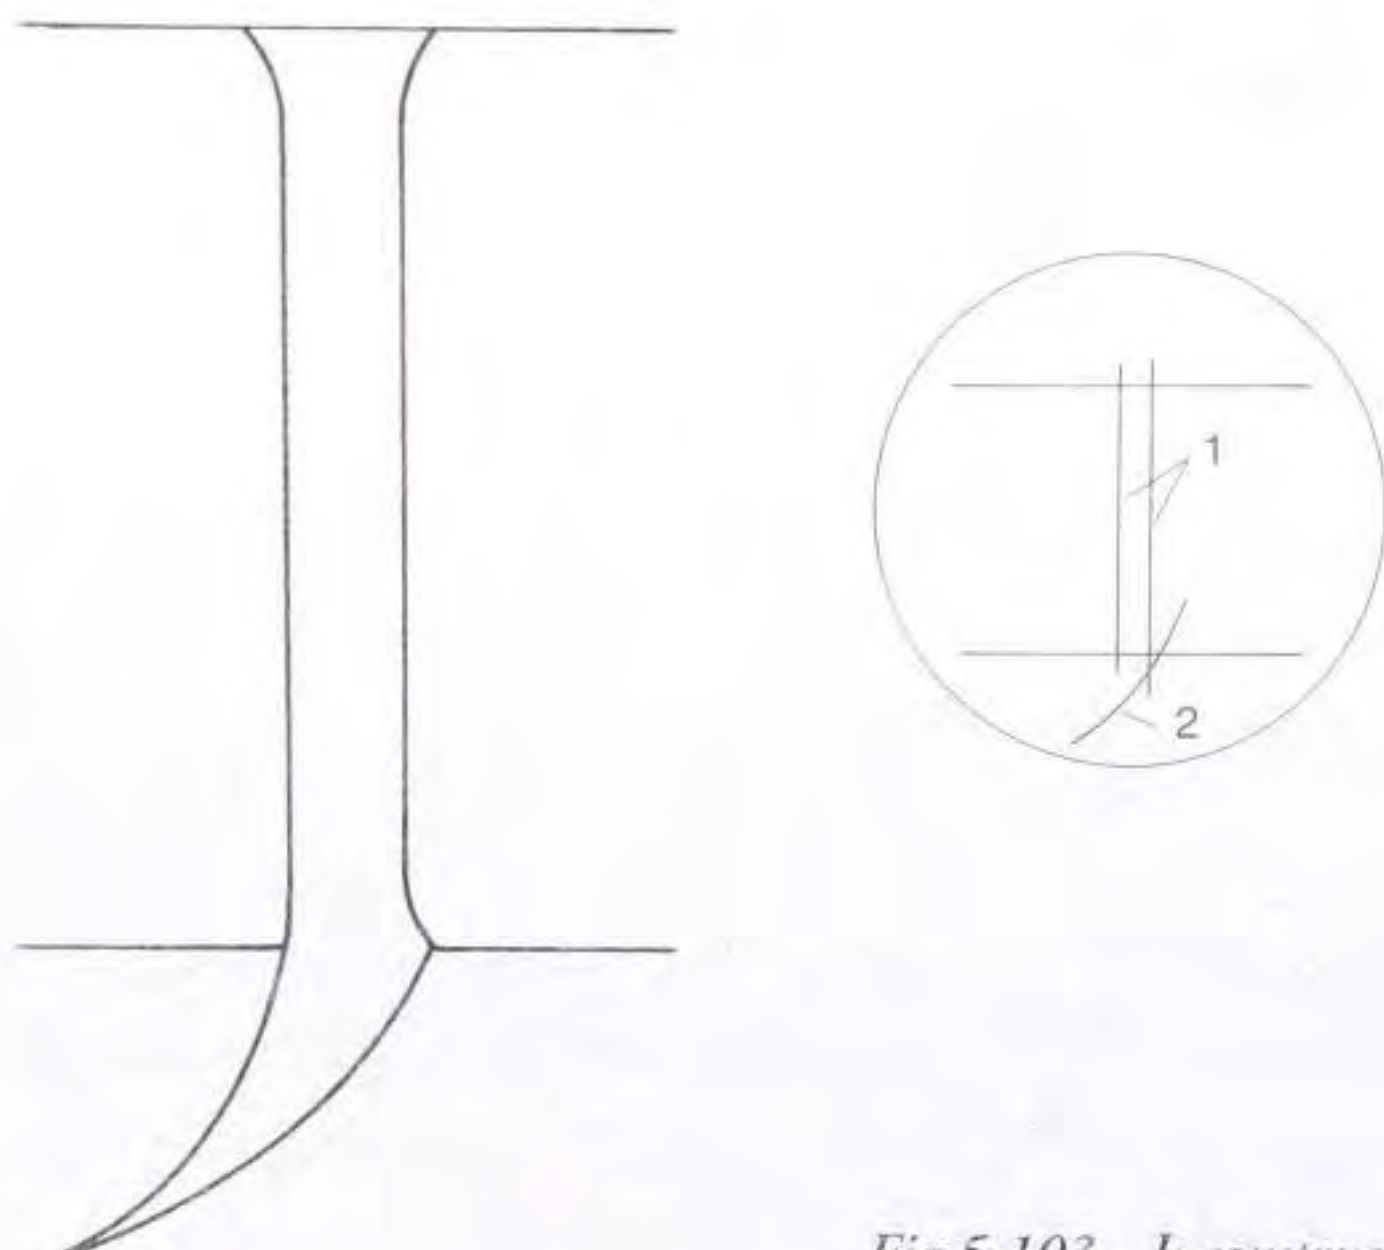

Fig 5.103 J: construction.
- 1 Refer to Fig 5.103. Incise the vertical trench.